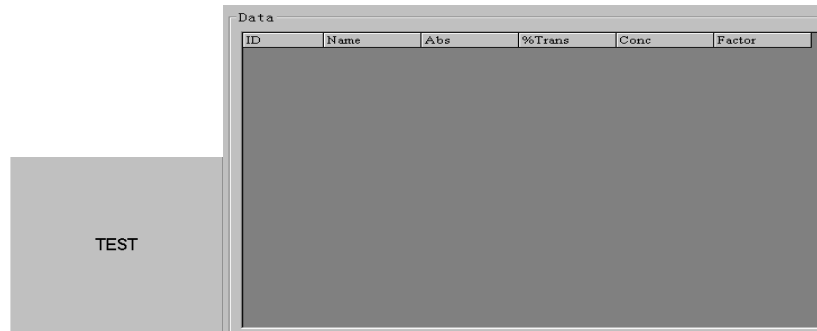

Figure-23 TEST Button and Data Table
- **TEST** Button: record the readout of a given sample (Figure-23).
- **Data Table**: record **ID**, **Name**, **Abs**, **%Trans**, **Conc**, and **Factor** related with the test (Figure-23)